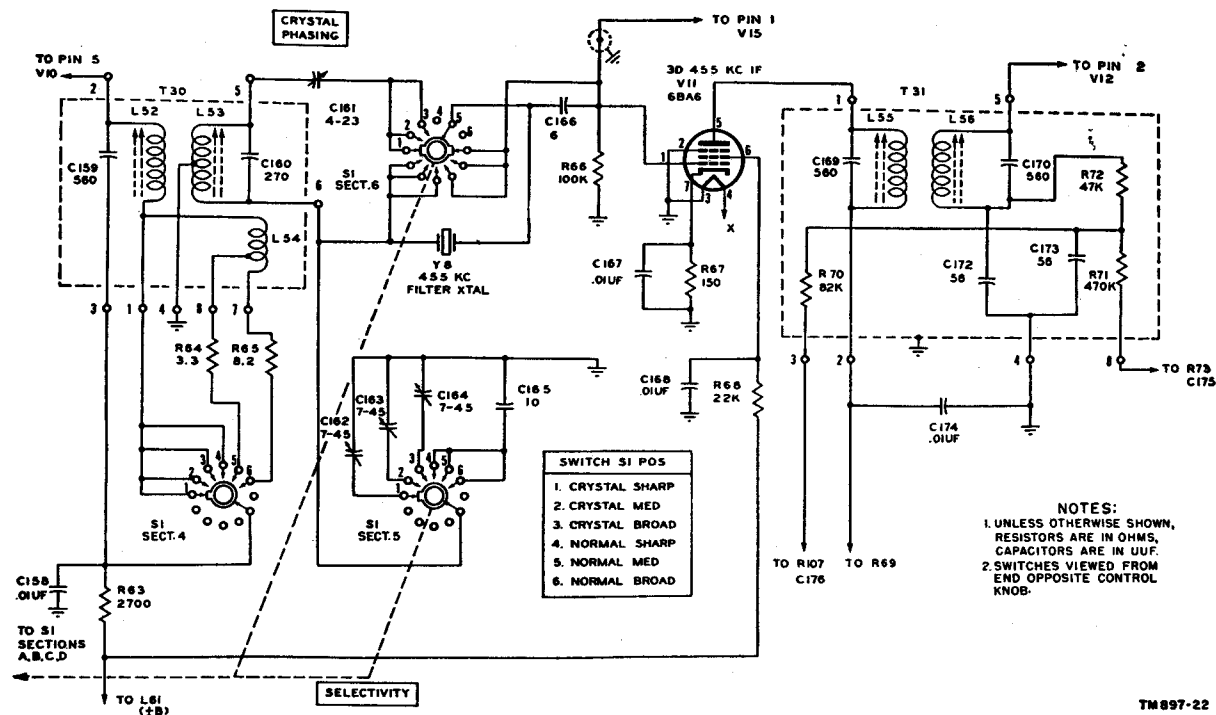

Figure 22. Radio Receiver R-274/FRR, functional diagram of 3d 455-kc i-f stage and crystal filter.
- (1) The 3d 455-kc i-f amplifier circuit is shown in figure 22. Resistor R66 is shown as the grid leak resistor for tube V11. Resistor R67 is the cathode resistor which keeps the total cathode current within safe limits and develops the bias under which the tube operates. Capacitor C167 is the cathode bypass which effectively grounds the cathode at intermediate frequencies. R68 is the screen voltage-dropping resistor, and capacitor C168 effectively grounds the screen of tube V11 at intermediate frequencies. The output of tube V11 goes to primary L55 of the 4th 455-kc i-f transformer T31. This primary circuit is resonated by capacitor C169. It is returned to +B through resistor R69, which with capacitor C174, forms a filter which prevents the signal in the plate circuit of tube V11 from getting into other circuits of the receiver.
- (2) The signal in the primary of transformer T30 is coupled inductively to the secondary which is resonated to 455 kc by capacitor C160. Note that this second-
*b. Crystal Operation.* Switch S1 SECT. 5 and SECT. 6 (fig. 22) determine whether the operation includes or bypasses the 455-kc filter crystal. The total voltage across the secondary (L53) of transformer T30 can be thought of as two separate voltages. The first is the voltage from ground to the top portion of L53. This voltage sends i-f current through capacitor C161, through the parallel combination of resistor R66 and the input capacities of tubes V11 and V15, and back to ground. The second voltage is that from ground to the lower end of L53. This voltage sends a signal through crystal Y8 through R66 in parallel with the input capacities of tubes V11 and V15, and back to ground. At signal frequencies different from its series resonant frequency, crystal Y8 acts like a pure capacity. Therefore, since the
two secondary voltages (in L53) are opposite in phase, the two currents through resistor R66 tend to cancel each other. In fact, when the phasing capacitor (CRYSTAL PHASING) C161, is adjusted accurately, these currents do cancel, and the voltage at the grids of tubes V11 and V15 is zero. Near series resonance, crystal Y8 does not behave like a high capacitive reactance but rather like a relatively low resistance. Therefore, the two currents will have a smaller phase difference as well as a considerable difference in amplitude, and some signal voltage will be developed in the input circuits of tubes V11 and V15. Because its  $Q$  is high, the losses in crystal Y8 are very small and therefore, the frequency range over which the voltage unbalance occurs is quite small. This is the reason for the high degree of selectivity of a crystal filter. To some extent, the equivalent resistance in the secondary circuit of transformer T30 affects the operation of the crystal filter. When this resistance is high (as it is when inductance L53 and capacitor C160 are *exactly* resonant at the series resonant frequency of crystal Y8), the selectivity curve is broadened, because the effective circuit  $Q$  is lowered. The bandwidth of the crystal filter circuit can be varied by the degree of mistuning of the secondary circuit of transformer T30. This is done to vary the bandwidth from 200 cycles to 500 cycles to 1,500 cycles as the selectivity switch is changed from CRYSTAL SHARP to CRYSTAL MEDIUM to CRYSTAL BROAD. When selectivity switch S1 SECT. 5 is in the CRYSTAL SHARP position (fig. 22), capacitor C162 is across part of the secondary of transformer T30. It is adjusted so that the secondary is mistuned just enough that the bandwidth is 200 cps. In the CRYSTAL MEDIUM position, capacitor C163 is in the circuit, adjusted to a different capacity, and the bandwidth is 500 cps. In the CRYSTAL BROAD position, capacitor C164 is in the circuit, and the mistuning of the secondary of T30 is very slight, therefore, the bandwidth is 1,500 cps. In actual operation of the receiver, the phasing control (capacitor C161) can be adjusted to give a high degree of rejection at a frequency slightly different from that at which maximum response occurs. Furthermore, the exact frequency at which this rejection occurs can be varied. This characteristic can be used to reject an undesirable signal which is at a frequency close to the frequency of the desired signal.
fied equivalent of the 3d 455-ke i-f amplifier circuit (crystal filter), together with SECTS. 5 and 6 of S1, when the selectivity switch is in NORMAL SHARP position, can be pictured by considering all the sections of switch S1 to be placed in position 4 (NORMAL SHARP) (fig. 22). The voltage in the lower part of L53 is sent to the grid of tube V11 through capacitor C166. Capacitor C166 has a low value (6 uuf (micromicrofarad)) so that the gain under noncrystal conditions will be in the proper proportion to the gain under crystal operation. Capacitor C165 replaces variable capacitors C162, C163, and C164 which were in the circuit for crystal operation.